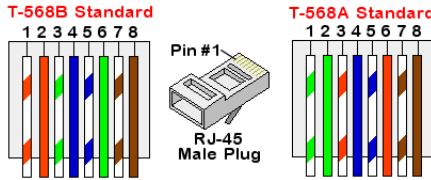

Figure 31: Standard cable wiring
- c. Insert the eight wires into an RJ45 connector, as described in *Figure 31*.
7. For the switch/router side, use a pre-crimped cable or use a crimper to prepare an RJ45 communication connector: Insert the eight wires into the RJ45 connector in the same order as above (*Figure 31*).